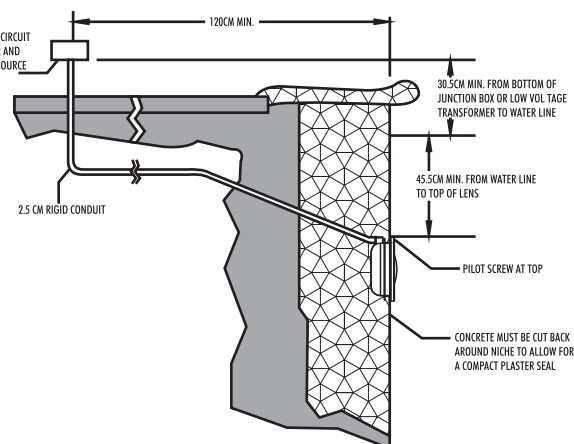

Figure 1.
### **● Preparatory steps which must be completed by the electrician before light is installed, see Figure 1.**
- a) The junction box, or the low voltage transformer for 12 volt Underwater Light model is to be located at least 120CM from the edge of the pool, see Figure 1.
- b) The mounting bracket must be properly installed so that the top edge of the Underwater Light lens is at least 45CM below the surface of the water in the pool, see Figure 1.
- 1) Locate position on a vertical wall where light is to be installed. The top of the light lens must be 45CM below normal water level, see Figure 1.